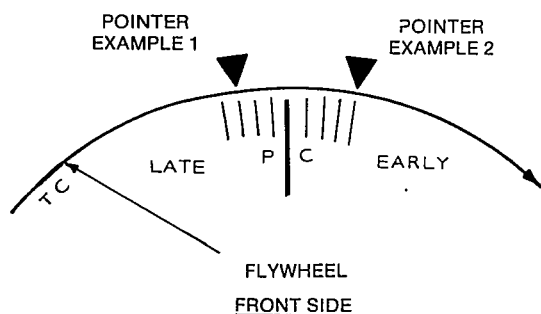

FIGURE 29. TIMING MARKS
- A. Mark flywheel in 0.1 inch (2.54 mm) graduations (about five marks each direction) from PC mark for calculating required change in button thickness, Figure 29.